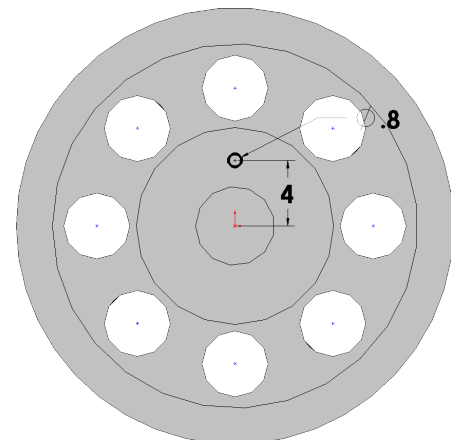

Fig. 31
Step 3. Click **Circle**  (S) on the Sketch toolbar.
Step 4. Draw a circle **directly above the Origin** , **Fig. 31**.
Step 5. Click **Smart Dimension**  (S) on the Sketch toolbar.
Step 6. Dimension as shown in **Fig. 31**.